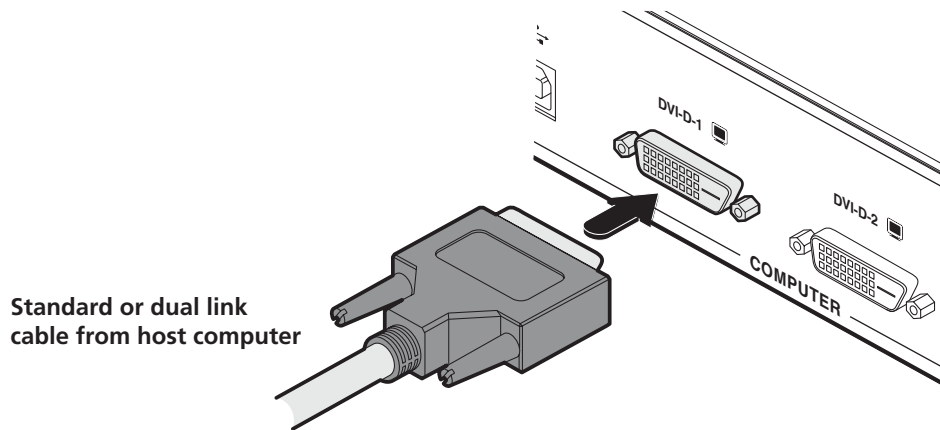

Figure 3-2. Connect a standard or dual link DVI-D cable to the DVI-D-1 socket.
- 2 Connect a standard or dual DVI-D link cable to the DVI-D-1 socket on the Local unit rear panel. See Figure 3-2.